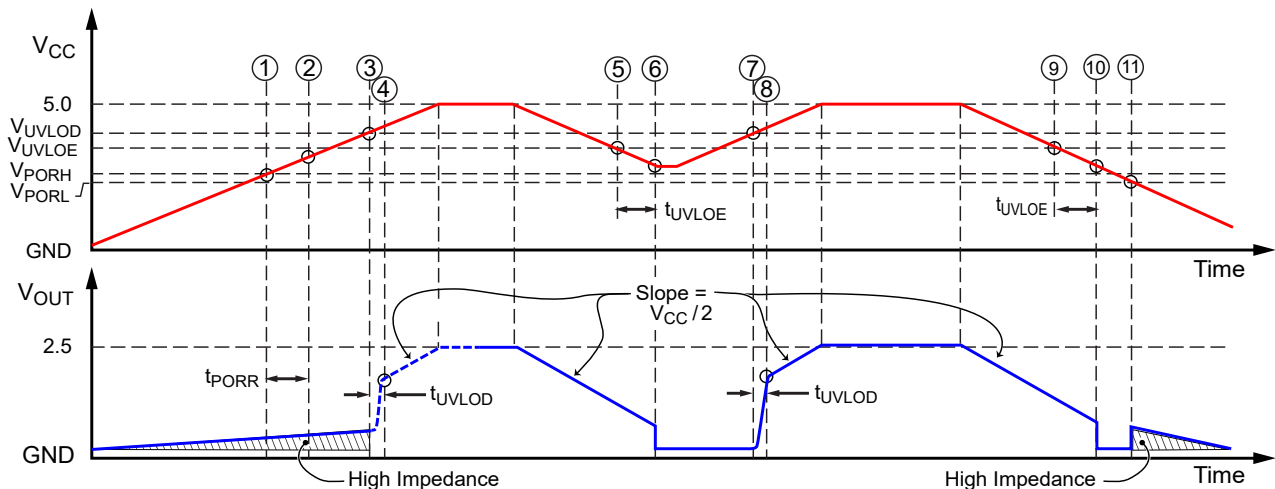
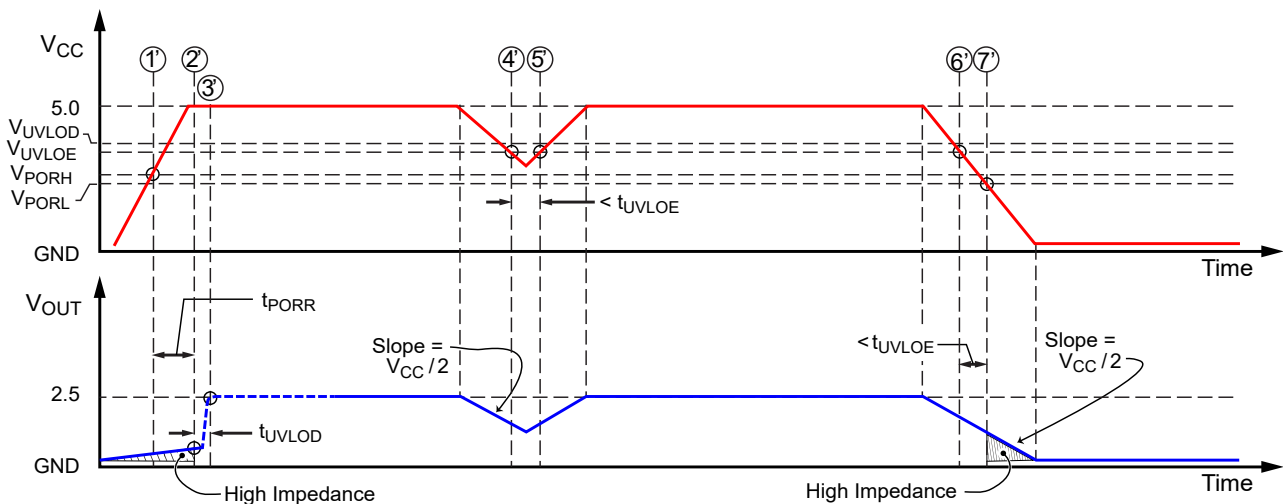

Figure 6: POR and UVLO Operation – Slow Rise Time Case
Figure 7: POR and UVLO Operation – Fast Rise Time Case
- Power-Up.** At power-up, as  $V_{CC}$  ramps up, the output is in a high-impedance state. When  $V_{CC}$  crosses  $V_{PORH}$  (location [1] in Figure 6 and [1'] in Figure 7), the POR Release counter starts counting for  $t_{PORR}$ . At this point, if  $V_{CC}$  exceeds  $V_{UVLOD}$  [2'], the output will go to  $V_{CC}/2$  after  $t_{UVLOD}$  [3'].